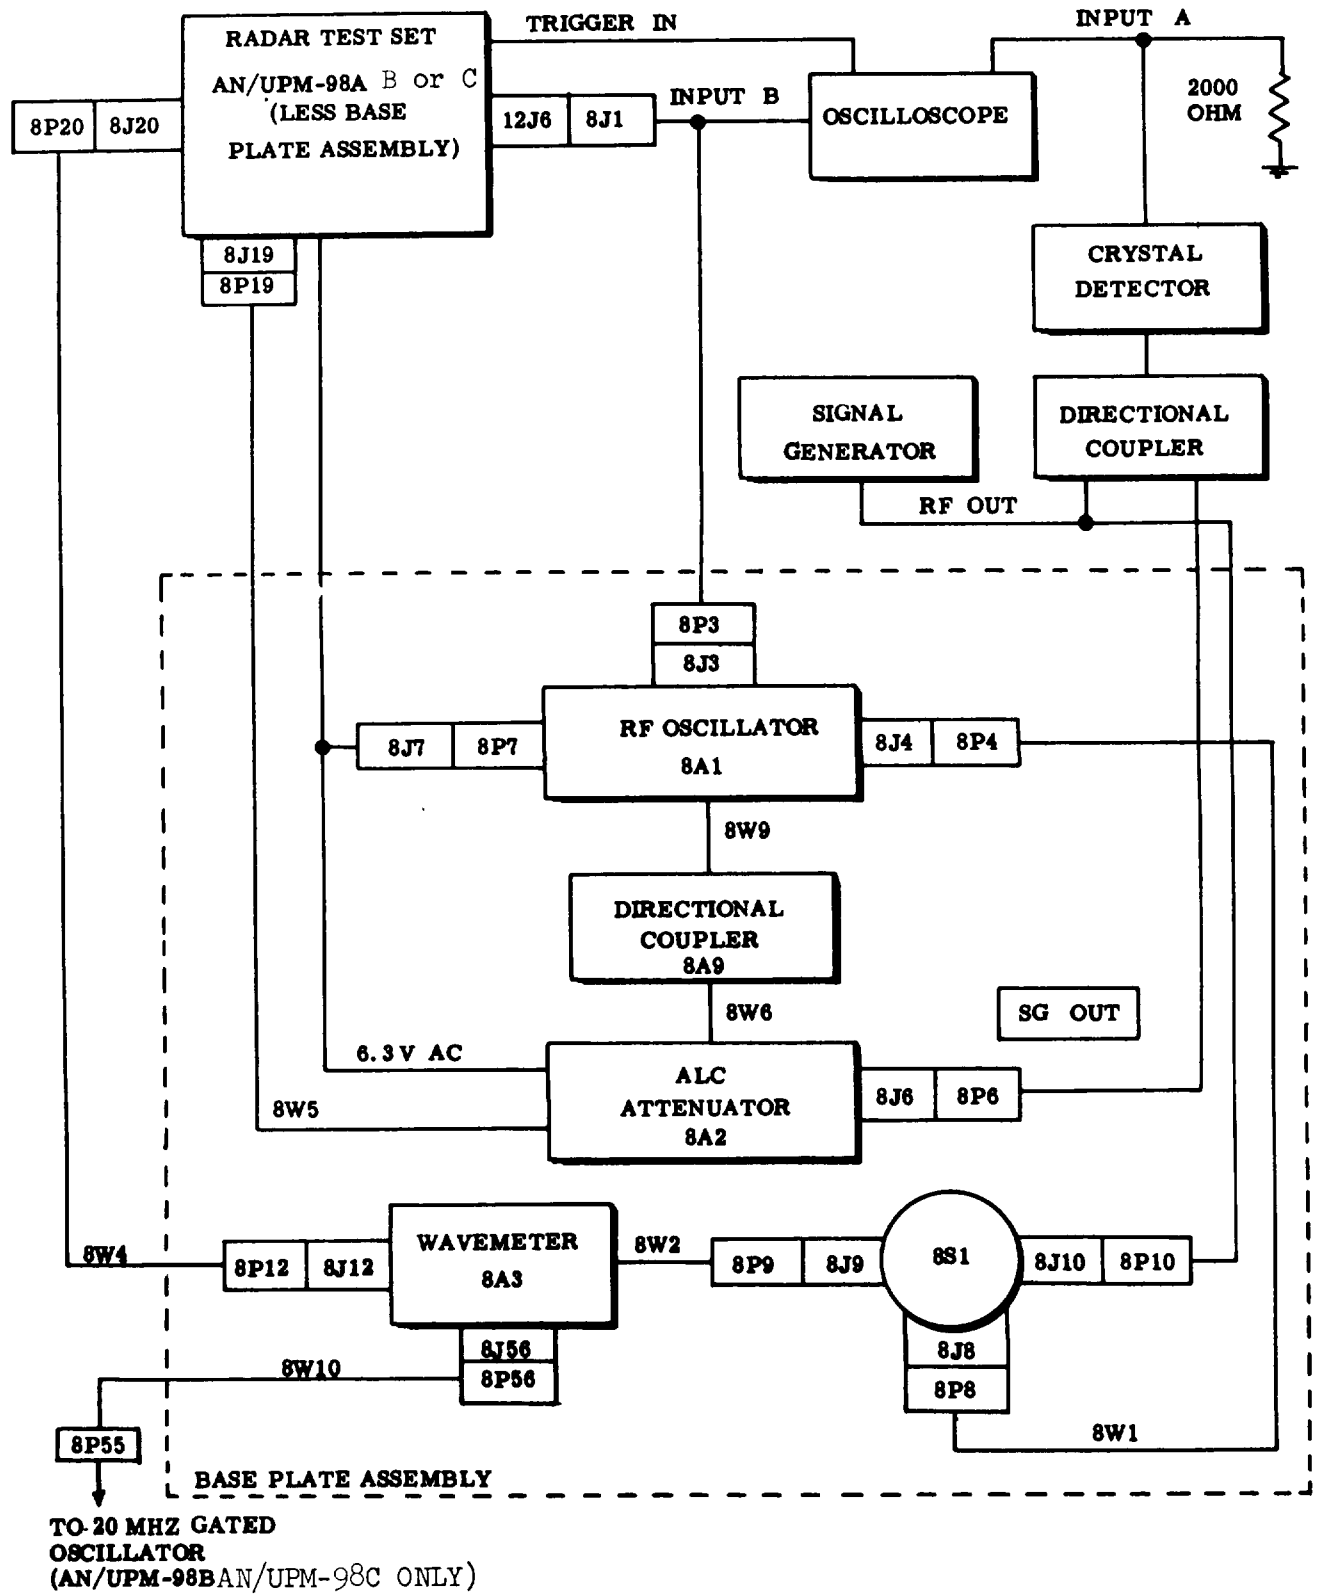

Figure 5-21. RF Base Plate Assembly, Pre-installation Alignment Setup
(1) GENERAL. - When one or more of the three rf assemblies mounted on the base plate assembly of Coder Simulator SM-197 A/UPM-98 is repaired or replaced, it is necessary to recalibrate and realign the unit. Connect equipment as in figure 5-21.
(2) RF OSCILLATOR ASSEMBLY 8A1 ALIGNMENT.